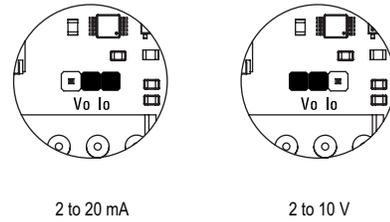

Figure 3: Output jumper positions
Prior to wiring the 4 to 20 mA or 2 to 10 V output, verify that the IOUT/VOUT jumper, located just behind the four terminal block P1, is in the correct position. For 4 to 20 mA output, the two right most pins are shorted. For 2 to 10 V output the two left most pins are shorted. See Figure 3 for examples.
5. Securely attach the A-507 to the CMS300 as shown in Figure 3.